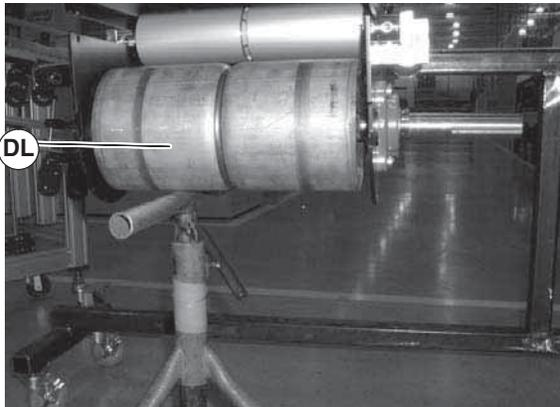

Figure 99
8. Temporarily support the drive pulley (Figure 99, item DL).